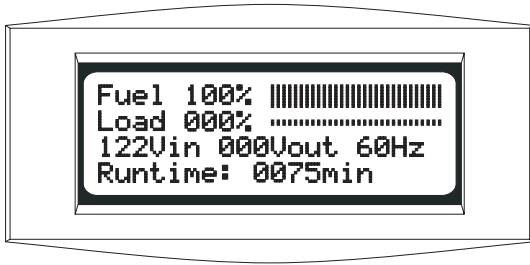

Fig 4-16 Startup Screen
- ❑ 6. Using the PowerView display, read and record the reported input voltage from the startup screen. (“122Vin” in figure 4-16 indicates that the input voltage is 122V.)
these messages by pressing the ESC navigation key on the PowerView display, until the startup screen reappears. See figure 4-16. Read and record the output voltage that is indicated on the PowerView. (“000Vout” in figure 4-16 indicates that the output voltage is 000V.)